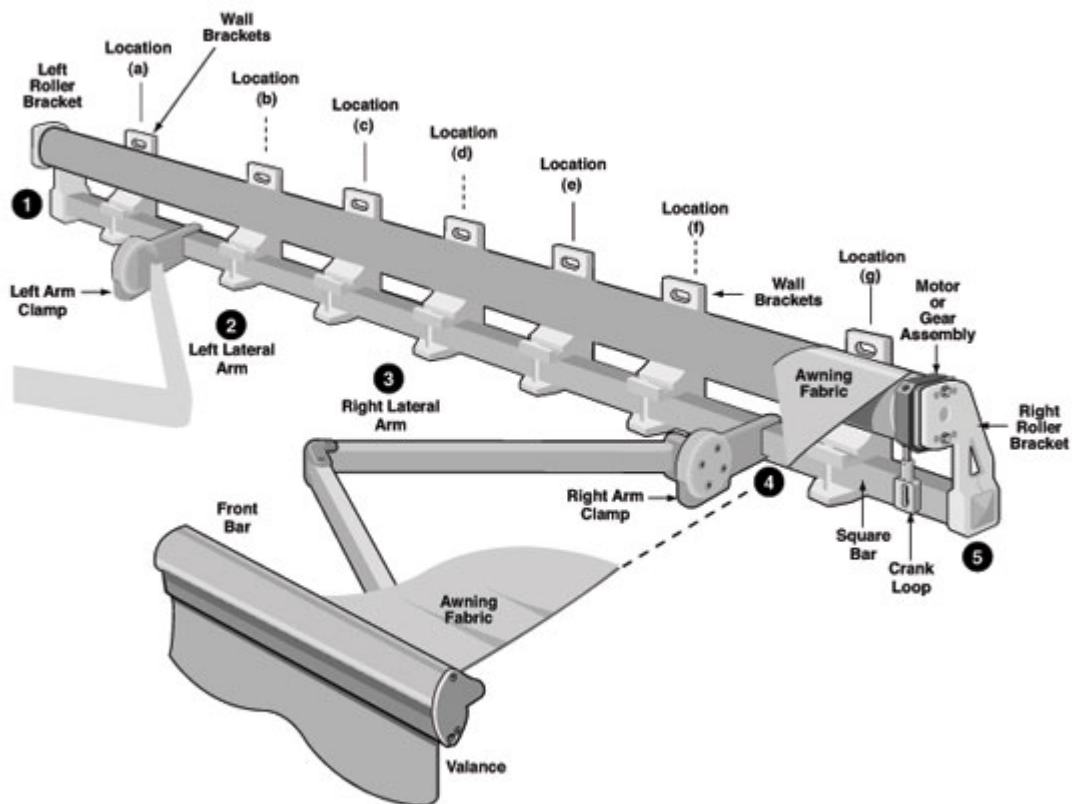

Figure 1
1. Before beginning, please familiarize yourself with the components of the awning as shown in Figure 1, and the supplied Fasteners / Part List shown in Figure 1A and 1B. Find the mounting brackets (wall or soffit) in the package (they are separated from the awning itself). If you are mounting your awning on a soffit, please go to Soffit Mount for this type of installation.